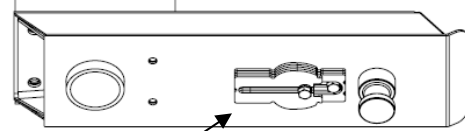

Figure 11
3. Install the universal wedge into the position for Sidewinder™ feature activation (figure 11) , in the proper orientation for your fifth wheel. The bolts will not be fully tightened at this time. Only tighten the (2) 5/8-11 X 1 3/4" wedge bolts until the conical washers begin to engage. The wedge should be allowed to slide with the rap of a hammer or mallet.